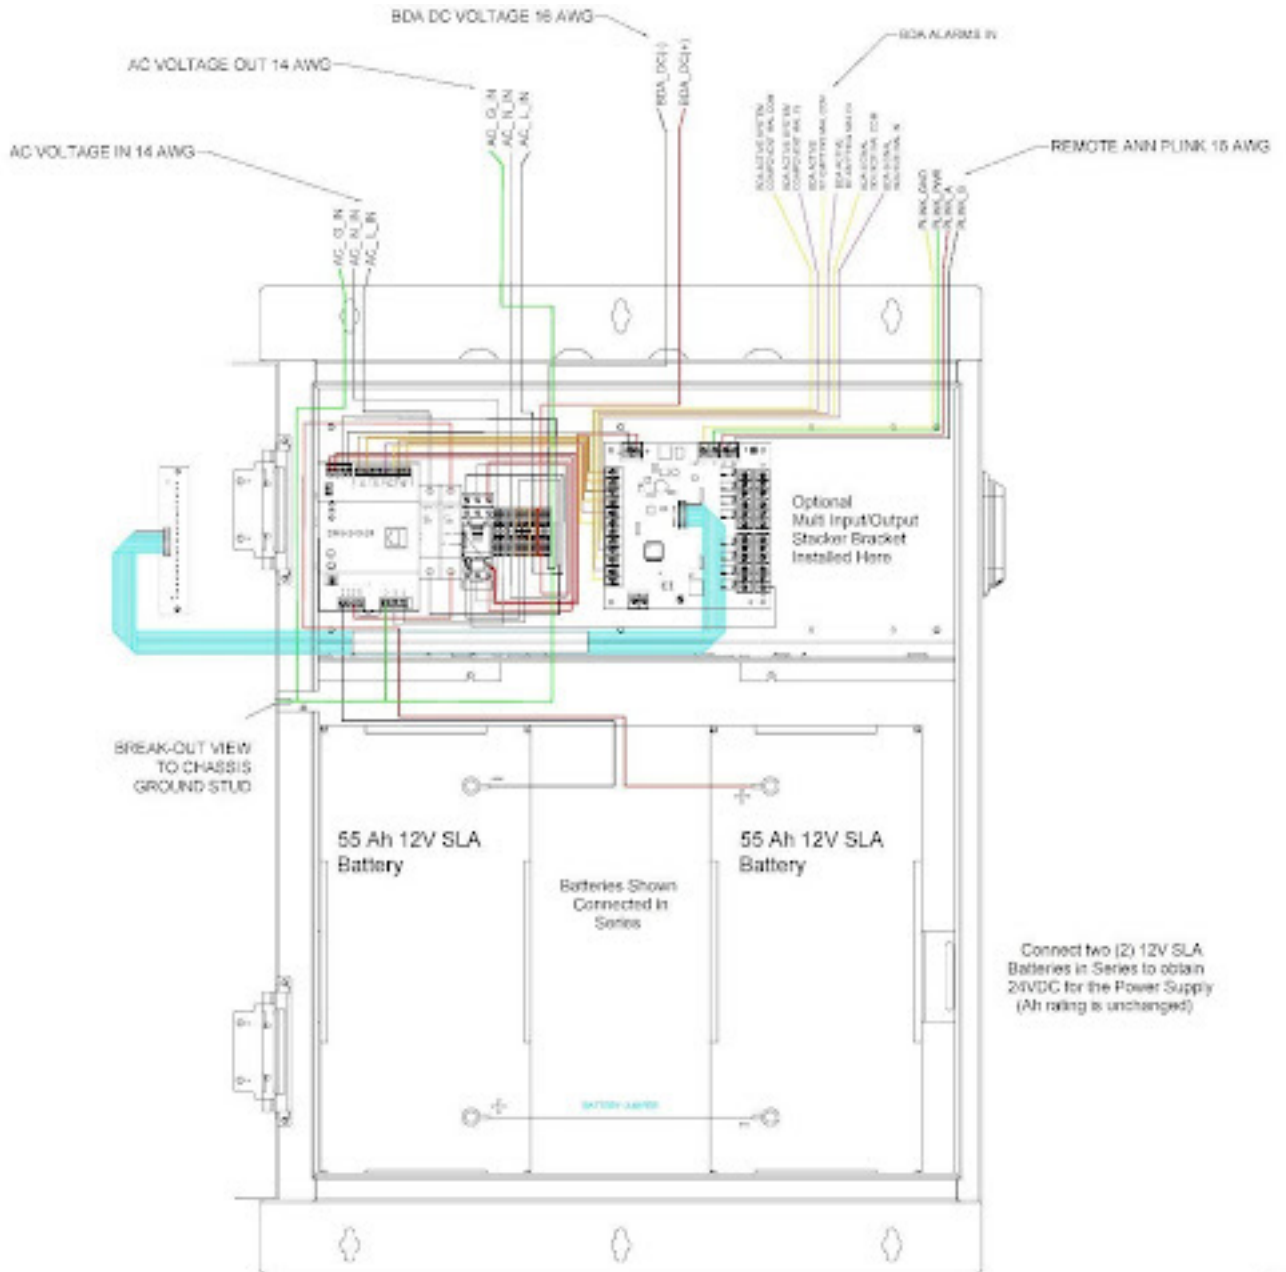

Figure 3
13. If utilizing a Potter FACP, the individual interface modules can be replaced with an optional Potter Multi I/O PCBA which supports up to ten (10) inputs and has a 2-wire SLC output to significantly reduce wiring. The Multi I/O PCBA can be mounted within the Guardian BBU enclosure. See Multi I/O PCBA Section 11 for details.
14. Verify Battery Breaker is in the OFF position. Connect batteries using the factory wired battery cables. 12V SLA batteries are connected in series using supplied battery jumper. See Section 7.1 Figure 3 if installing batteries in PN# 3996203 or Section 7.2 Figure 4 for installing batteries in PN# 3996204. SLA and LiFePO4 batteries are installed vertically within the enclosure and secured using the supplied battery straps or mounting fixtures. Terminals should be facing outward for ease of connection. See Stand-by Specifications Section 4, pg. 5 for compatible batteries. Using a multimeter, measure output at the battery circuit breaker input and verify 24-29 VDC is present.